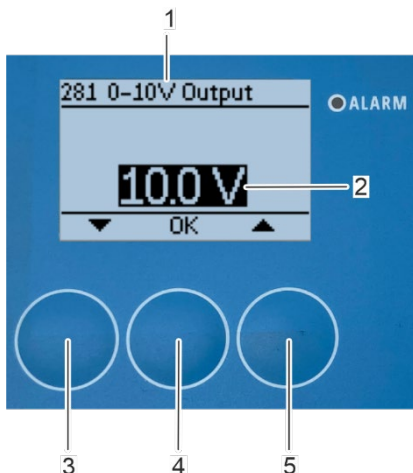

Fig. 141: Set 0-10 V output signal
⇒ The "281 0-10V Output" submenu (Fig. 141/1) appears on the display.
3. Set the output voltage (Fig. 141/2) with the arrow keys [up] (Fig. 141/5) and [down] (Fig. 141/3).
4. Confirm the selection with [OK] (Fig. 141/4).